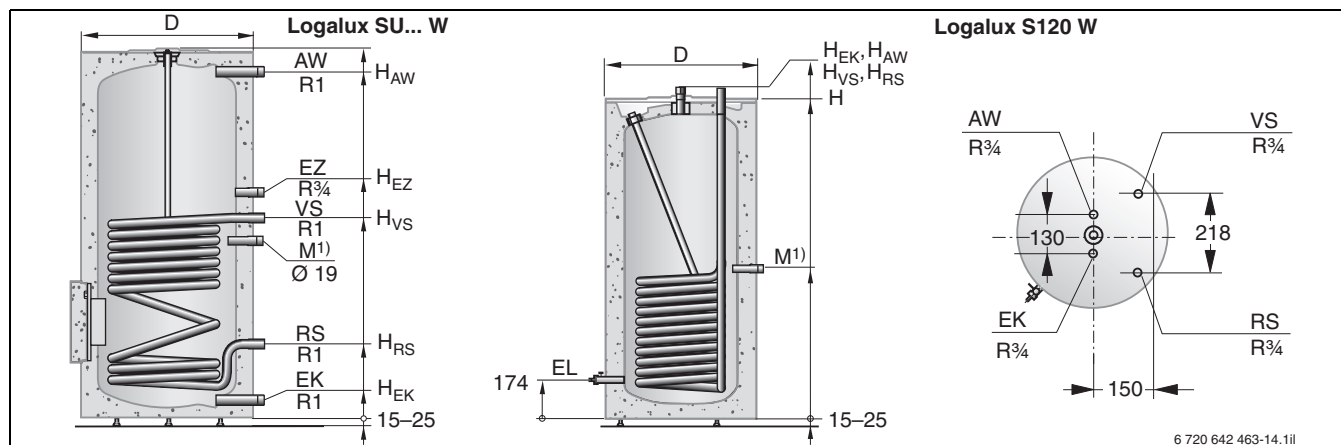

Fig. 14 Dimensions and connections Logalux S120 W and SU... W (dim. in mm)
1) Connections at the back of the cylinder (→ fig. 14, page 26); required clearance for the cylinder connections at the back 100 mm